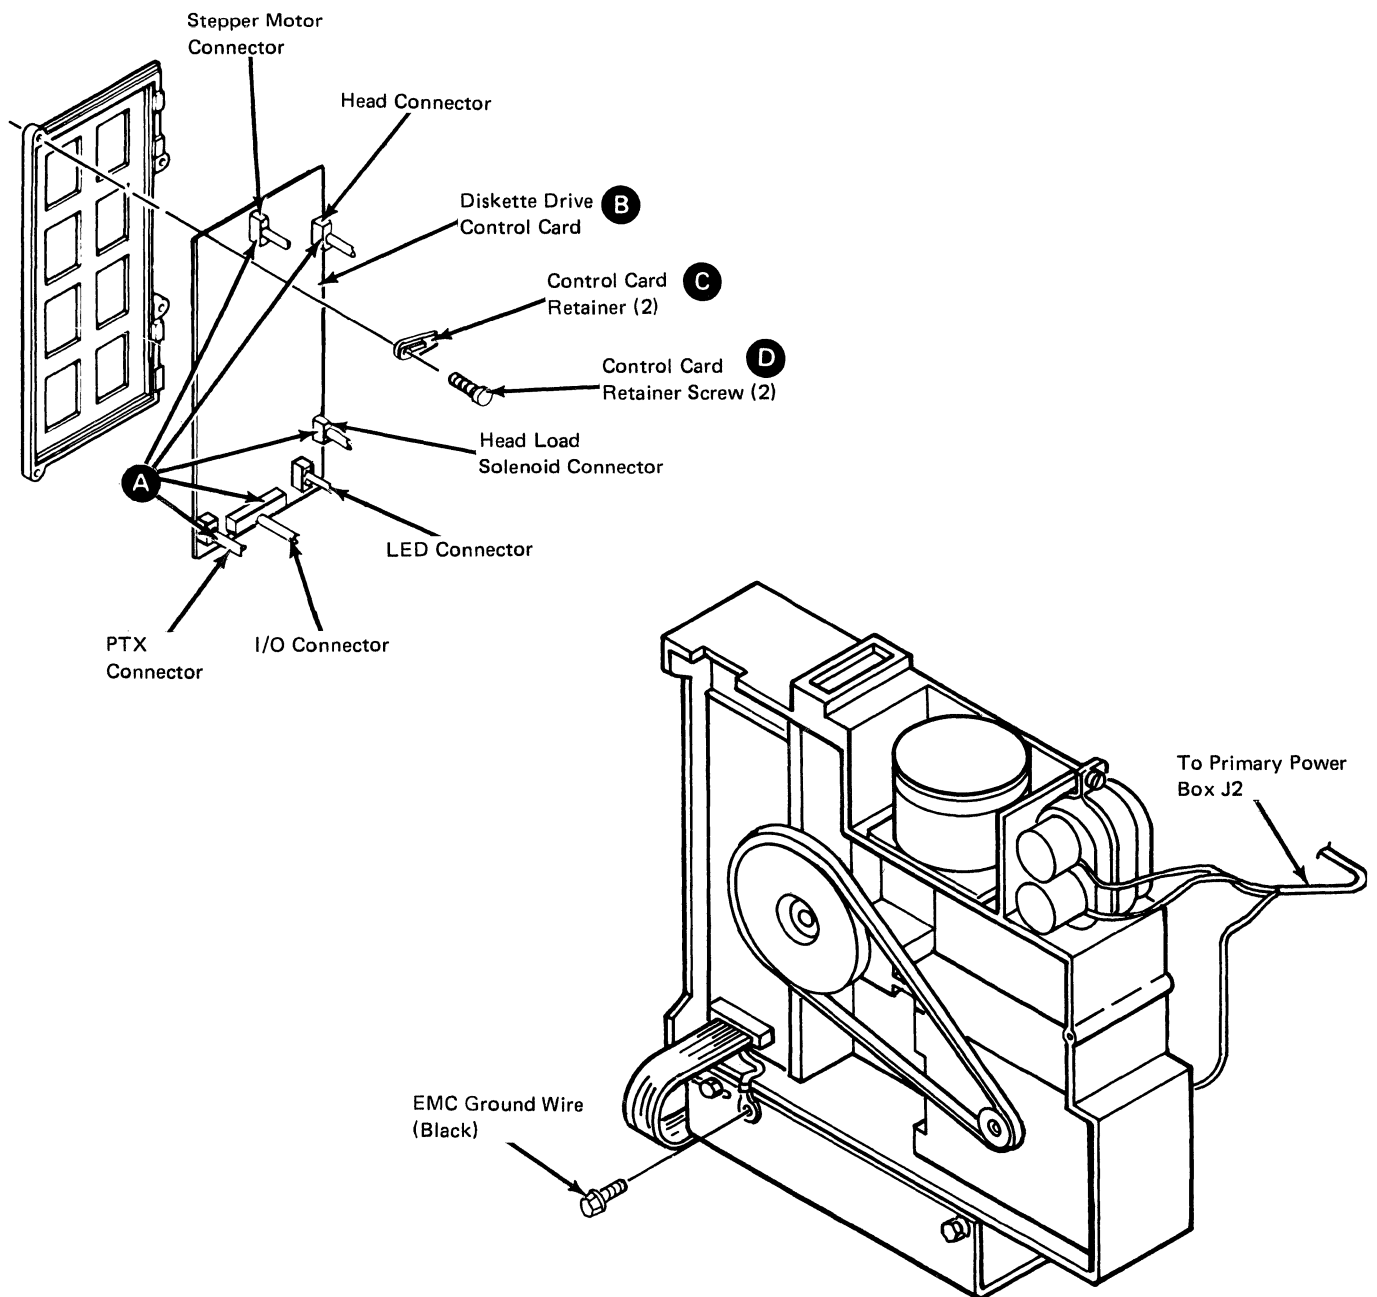

Figure 4-8. Diskette Drive Card
8. To remove the 51TD card, refer to Figure 4-8.
4.7 Diskette Drive Control Card Removal and Replacement (Figure 4-8)